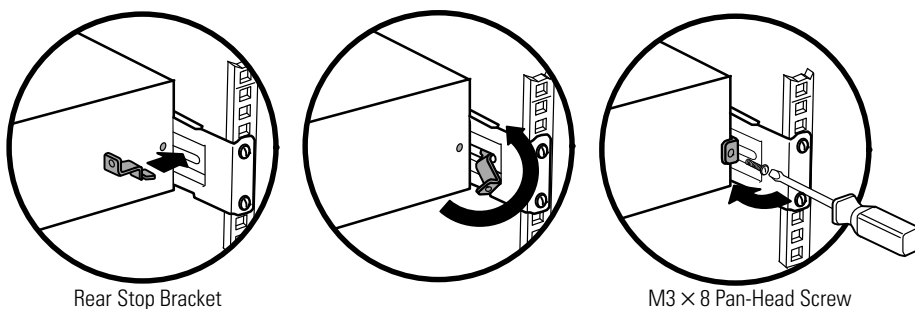

Figure 8. Securing the Back of the Cabinet (Optional)
13. **Optional.** Insert a rear stop bracket through the inside of each rail behind the UPS. Rotate each bracket and slide the bracket until it fits tightly against the UPS's rear panel. Secure each bracket to the UPS with one M3 × 8 pan-head screw. See Figure 8.